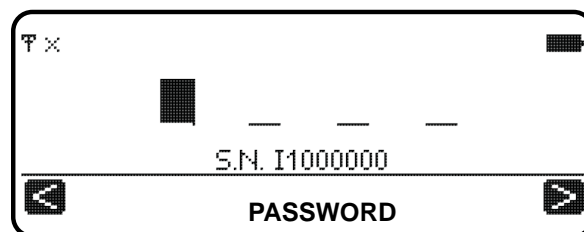

Fig. 8
1. Press     : the first character "0*" appears which means that the character can now be changed (Fig. 8);